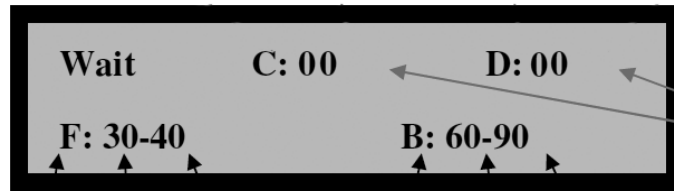

fig.6
- 5.3. Press Red On/Off button - the LED indicator shows the last memory used - e.g. Fig.6.
5.6. **Controller set up. See fig.6**